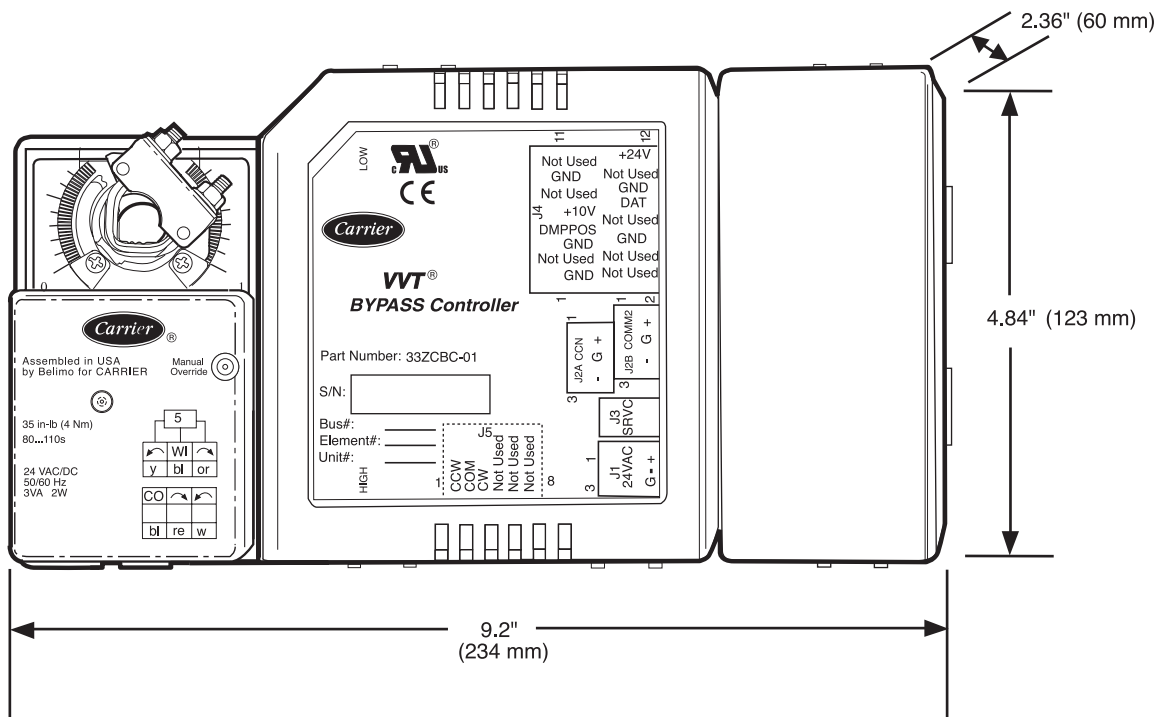

**Fig. 2 — Bypass Controller Dimensions**
5. Mount the bypass controller to the terminal by sliding the damper shaft through the actuator clamp assembly. See Fig. 2 for details. Remove the controller wiring
**Damper Stops** — For clockwise closed installations the damper stop on the right side of the damper shaft is left at the full clockwise position. The stop on the left side of the shaft must be moved to stop the actuator at the full open position for the damper. For example the Carrier round dampers rotate 45 degrees. Slide the left stop up to the 45 degree mark. Press the actuator release button and rotate the damper CCW all the way to the stop. The damper blade indicator should indicate the damper is full open. Wire 5 (white) should be wired to J4-7(DMPPOS). See Fig. 2.